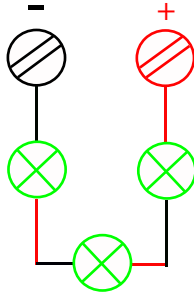

Figure 1
2. Wire up SL008 in series as shown above - see fig 1.